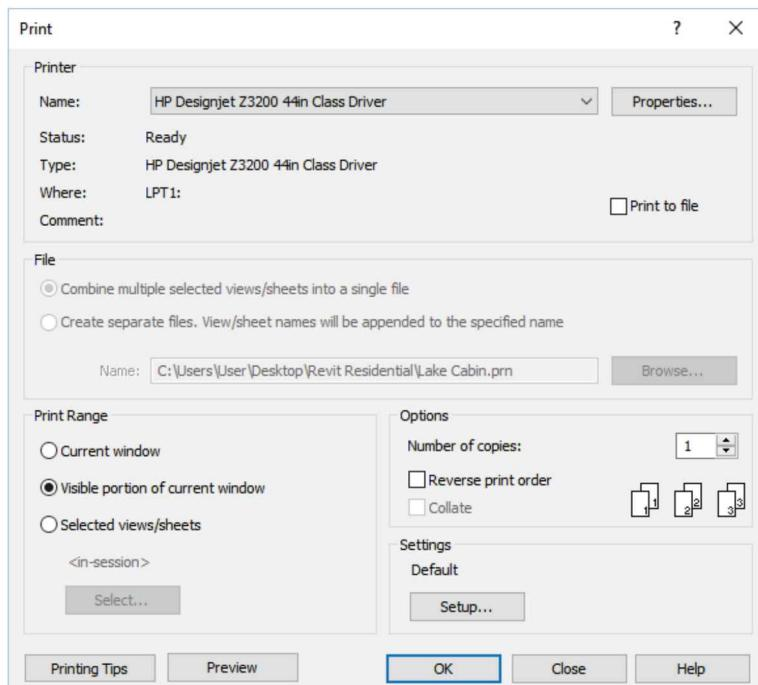

FIGURE 2-6.1 Print dialog
2. Adjust your settings to match those shown in **Figure 2-6.1**.